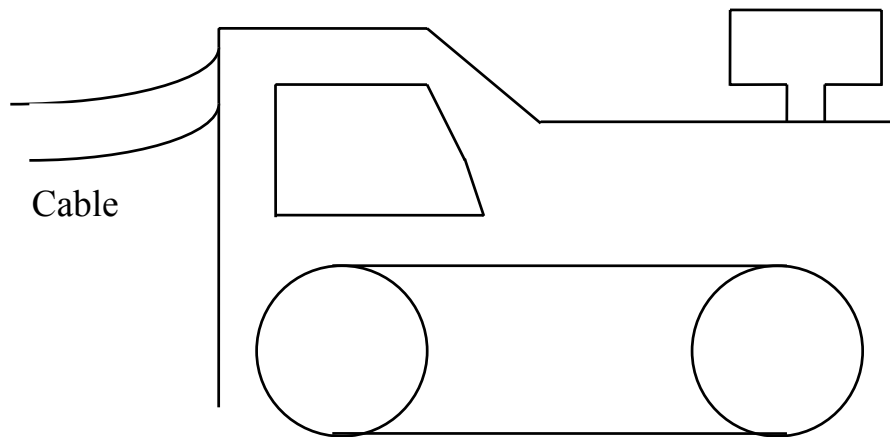

Fig.3
15. Indicate with an arrow on the drawing in Fig.3 which direction the belt should rotate on an electric portable belt sander.